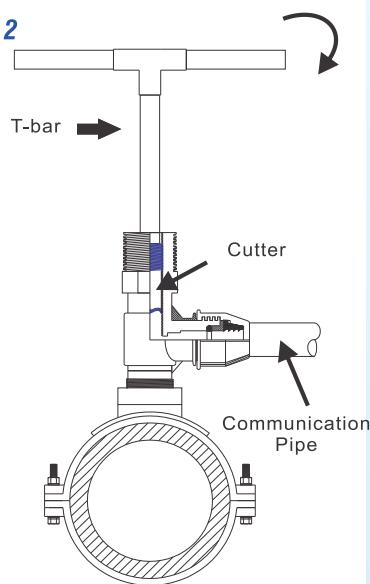

Fig.3
6. Turn the T-bar in clockwise direction until the cutter cut through the pipe wall. ( Figure 3 )